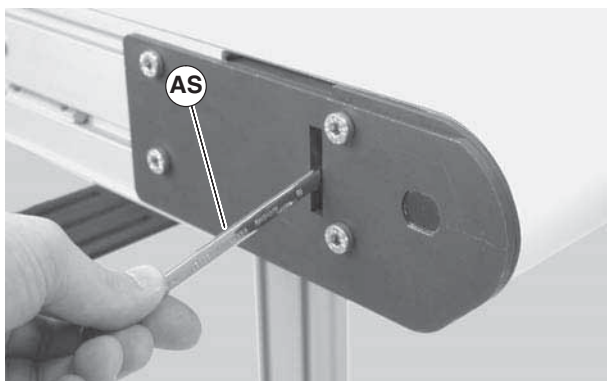
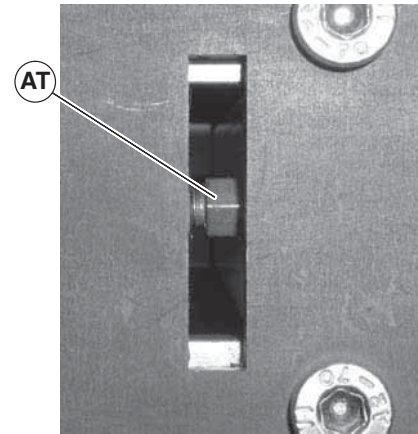

Figure 30
Figure 31
3. With the conveyor running, use wrench (Figure 30, item AS) to rotate the tracking screw (Figure 31, item AT) in small increments until the belt tracks in the center of the conveyor.